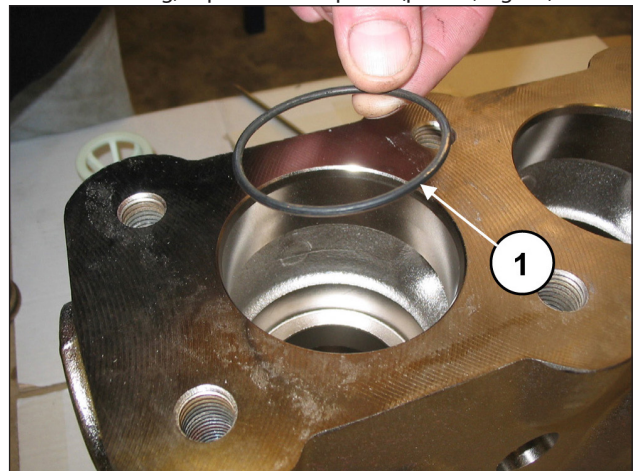

Fig. 93
Insert the O-ring, exploded view pos. 5 (pos. ①, Fig. 93).